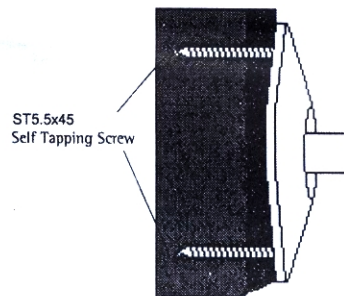

Figure 7
NOTE: In wall mounting applications position mounting holes in a vertical pattern (Figure 7).
3. Drill holes through the drywall and into the wood stud using a 1/8" drill bit. These holes should be drilled 1-7/8" deep (Figure 7).